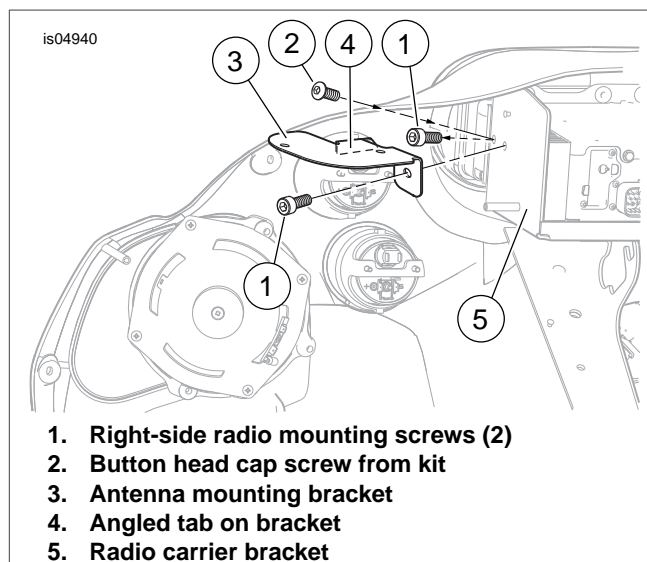

Figure 2. XM Radio Bracket Installation (FLT Models)
3. See Figure 2. Obtain the 1/4-20 x 5/8 inch button head cap screw (2) from the kit.
4. Remove the two right-side radio mounting screws (1).
5. Insert the **new** button head cap screw (2) into the upper (rearward) radio mounting hole, through the radio carrier bracket to the radio, and tighten to 35-45 **in-lbs** (4.0-5.1 Nm).